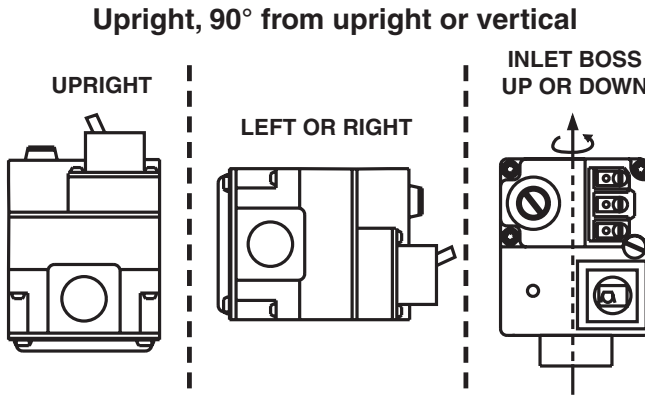

Figure 1. Mounting positions
5. The control may be installed in any orientation **except upside down** (see figure 1). The arrow on the valve indicates the direction of gas flow through the control.